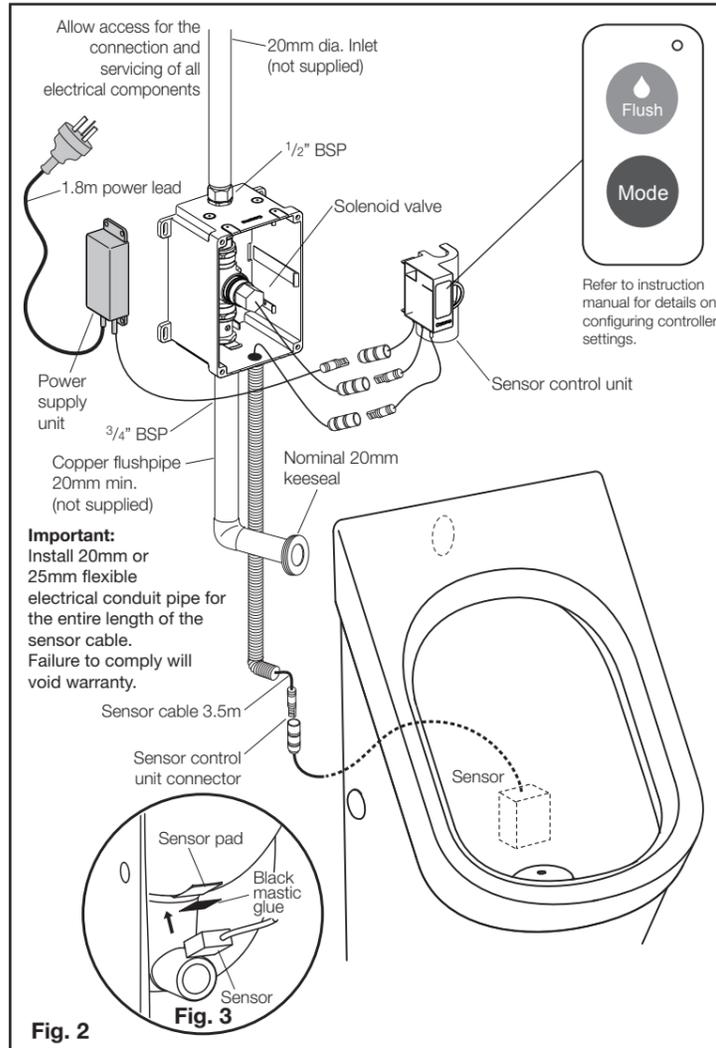

Fig. 2
8. Make connection from Power Supply Unit to Sensor Control Unit as detailed in Fig. 2. **DO NOT SWITCH ON POWER SUPPLY.**
9. Clean rectangle pad area at the back of the urinal ensuring it is free of dust and grease. Apply mastic glue supplied to the black plastic side of the Sensor (opposite side to the label). Adhere Sensor on the urinal with cable pointing upwards, as detailed in Fig. 3. Connect Sensor Control Unit Connector as detailed in Fig. 2.